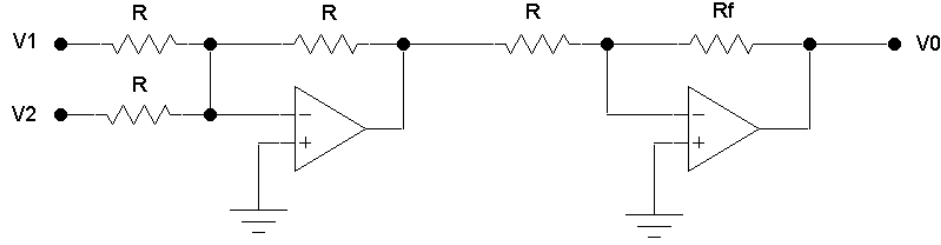

Figure 1.4: Two op-amp solution of  $Y = mX + b$
Figure 1.4 shows a two op-amp circuit that can be used to evaluate the equation
**[?]** Derive the transfer function for the two op-amp circuit of Figure 1.4.
- ① Determine for the circuit of Figure 1.4 the transfer function parameters required to properly display the LM61 output as temperature on the voltmeter.
- ① Build the circuit. Set  $V_{CC} = +15\text{ V}$  and  $V_{EE} = -15\text{ V}$ . Select  $R \approx 10\text{k}\Omega$ .
- ① Simulate the LM61 output voltage with the PPS. Vary the PPS voltage and verify that the circuit behaves as expected.
- ① Now replace the PPS with the LM61. The LM61 is a three-pin device. With the flat face toward you, connect the left pin to  $+5\text{ V}$  and the right pin to  $0\text{ V}$ . The centre pin is the output voltage, as described.